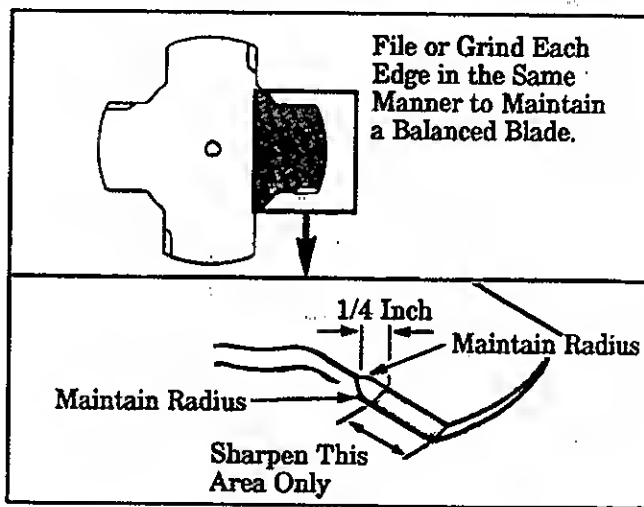

Figure 34
3. File or grind each edge in the same manner to maintain a balanced blade as shown. Figure 34.
To prevent the blade from cracking or flying apart after sharpening, do not file within 1/4 inch of the radii shown in Figure 34.